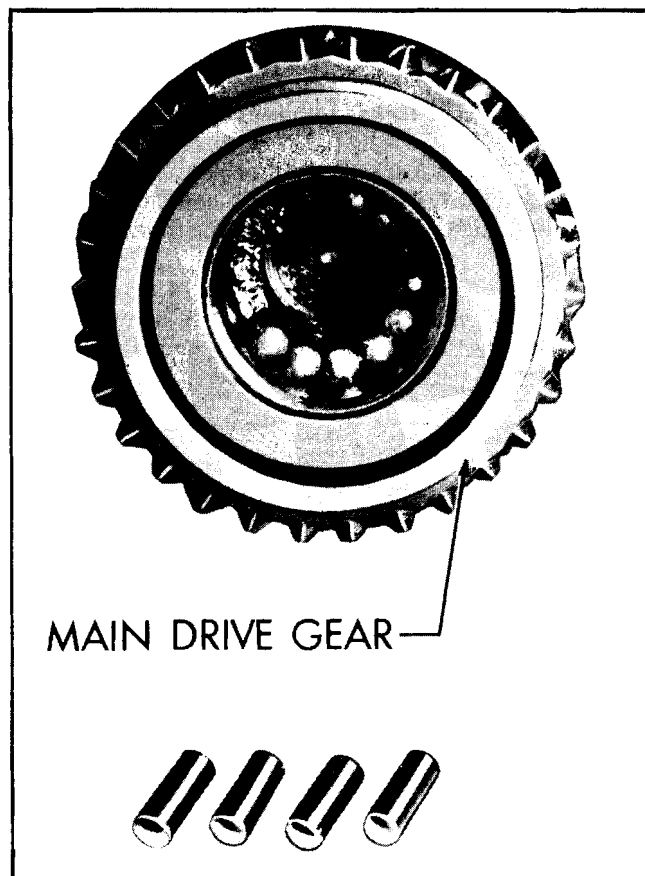

Fig. 7C-23 Loading Bearing Rollers in Main Drive Gear
26. Install extension housing and mainshaft assembly into case (Fig. 7C-8). Install extension housing-to-case bolts, torquing to 45 lb. ft.